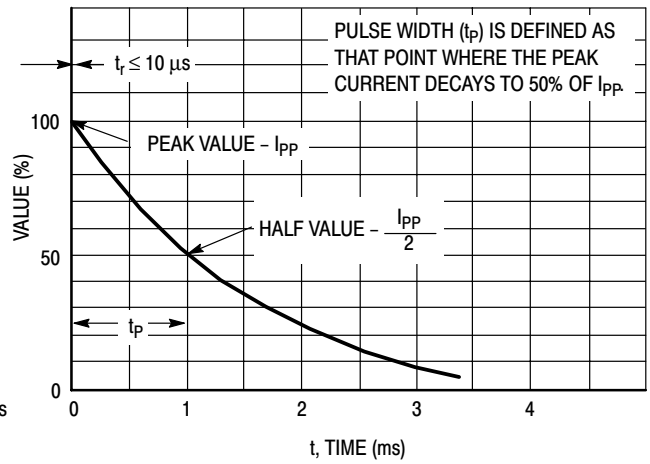

Figure 2. Pulse Waveform
- Surge current waveform per Figure 2 and derate per Figure 3 of the General Data – 600 Watt at the beginning of this group.